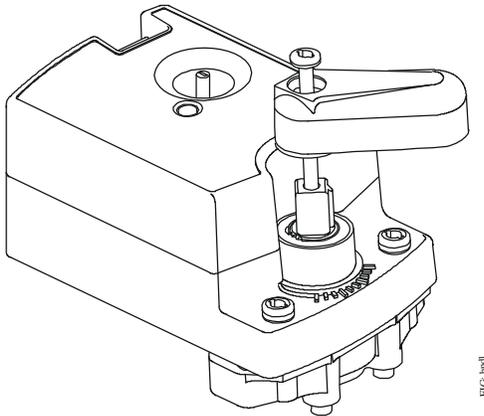

Figure 5: Installing the Handle
3. Place the handle the top of the drive shaft (Figure 5). The handle is keyed on and can only be mounted in one orientation.
- verify that the valve fully opens and closes, using the gear release button on the actuator and the manual override handle, shown in Figure 5.